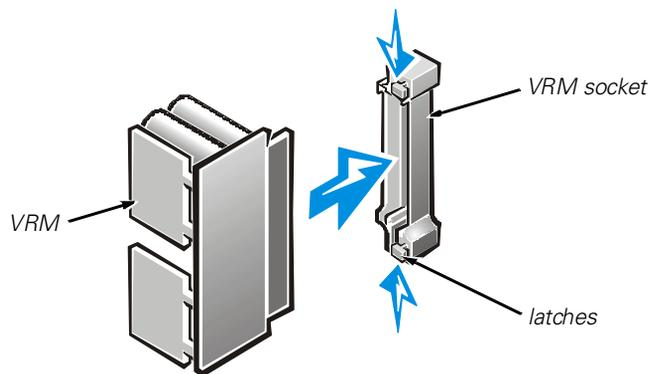

Figure 8-14. Installing the VRM
12. If you are adding a second microprocessor, disconnect the FAN1 connector and place the VRM in the socket (see Figure 8-14). Make sure that the latches engage.